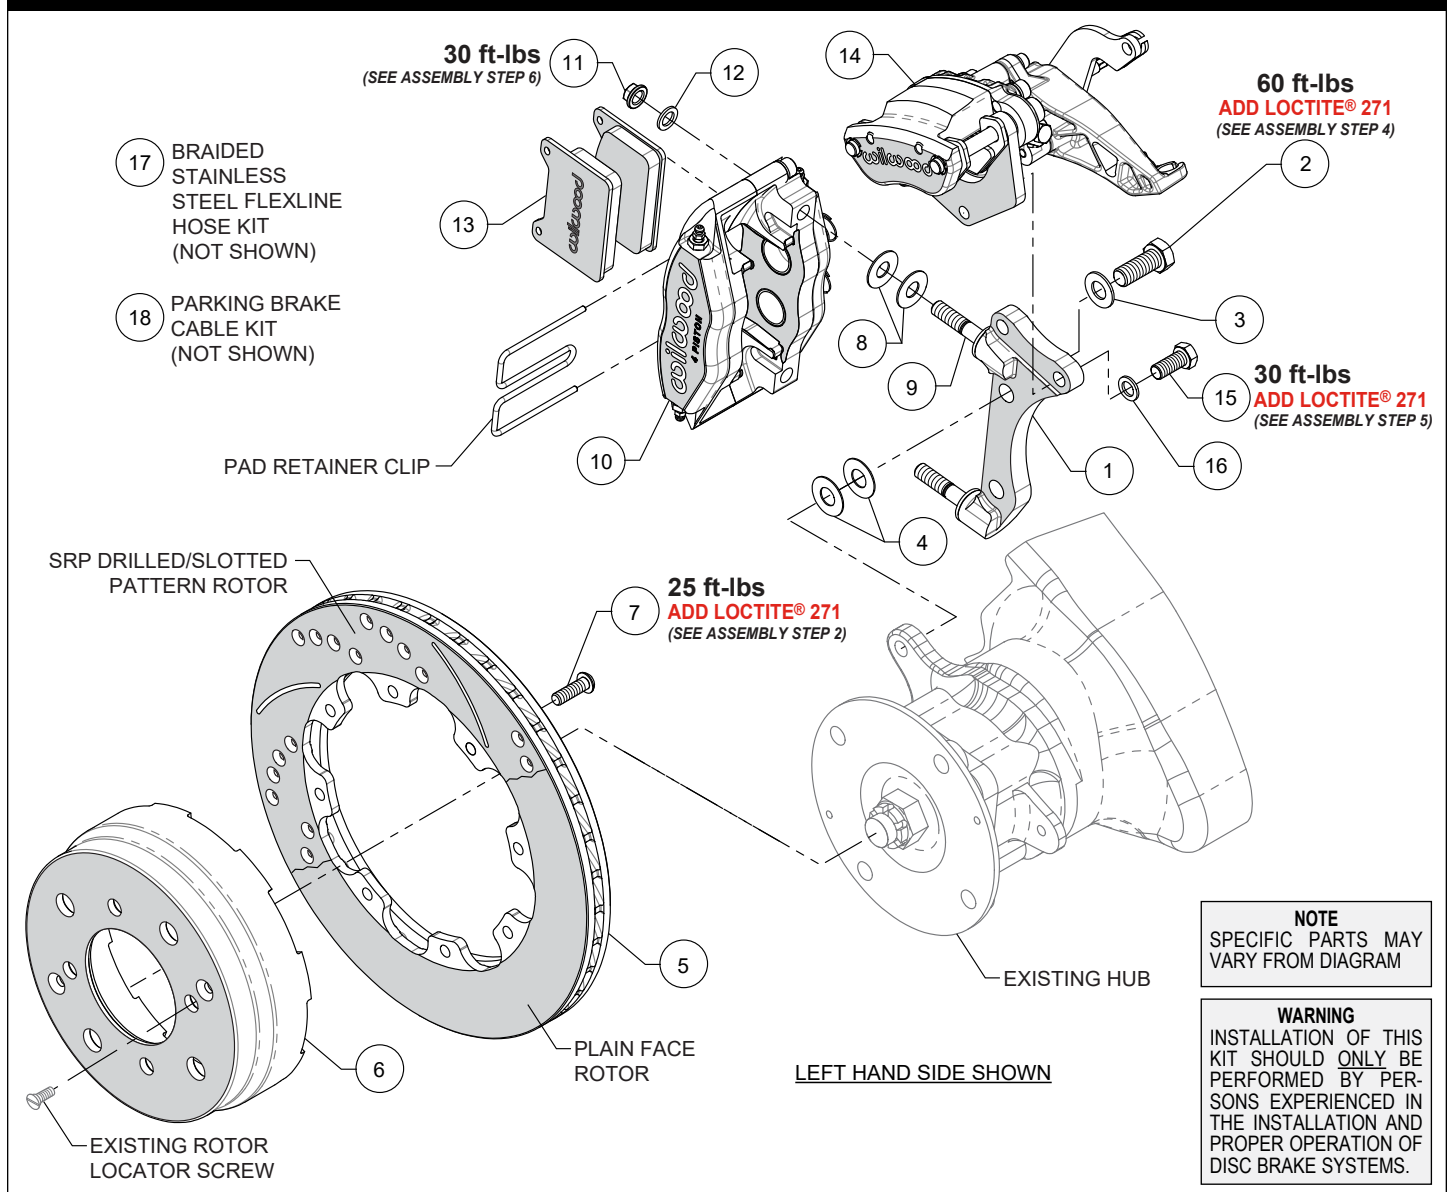

Figure 1. Typical Installation Configuration
NOTE: Numbers in parenthesis refer to the parts list and Figure 1 on the preceding pages.
STEP 1 The caliper mount bracket (1) should initially be installed with clean, dry threads on the mounting bolts. Orient the bracket, as shown in Figure 1 and Photo 1, and install using bolts (2) and washers (3). Initially place two .033" thick shims (4) on each bolt between the bracket (1) and caliper mounting bosses of hub assembly, Figure 1. Temporarily tighten the mounting bolts. **NOTE:** The bracket must fit squarely against the mount bosses on the hub assembly. Inspect for interference from casting irregularities, machining ridges, burrs, etc. Later, after the caliper alignment has been checked, the mount bolts will be secured using red *Loctite*® 271.
STEP 2 Orient the rotor (5) and the hat (6) as shown in Figure 1 and Photo 2. Attach rotor to hat using bolts (7). Apply red *Loctite*® 271 to the bolt threads and torque to value shown in Figure 1 using a criss-cross pattern.
STEP 3 Slide the hat/rotor assembly onto the axle hub, Photo 3. **NOTE:** The hat must fit flush against the axle hub flange or excessive rotor run out may result. Install the hat locator screw (OEM), as shown in Figure 1, to keep the hat/rotor assembly in place while continuing with the installation.
STEP 4 Initially place two .035" thick shims (8) on each stud (9) between the caliper (10) and the bracket (1), as shown in Figure 1 and Photo 4. Mount the caliper (10) onto the bracket (1) using lock nuts (11) and washers (12), Figure 1. Temporarily tighten the lock nuts. View the rotor through the top opening of the caliper. The rotor should be centered in the caliper, Photo 5. If not, adjust by adding or subtracting shims (4) between the bracket and the mounting bosses
of hub assembly. Always use the same amount of shims on each of the two mounting bolts. Once the caliper alignment is correct, remove the bracket mounting bolts (2) one at a time, apply red *Loctite*® 271 to the threads, and torque to value shown in Figure 1.
STEP 5 NOTE: For better accessibility to parking brake caliper mounting bolts (15), remove caliper (10) and proceed with the following. Mount the parking brake caliper (14) to bracket (1) using bolts (15) and washers (16) as shown in Figure 1 and Photo 6. Apply red *Loctite*® 271 to the bolt threads (15), and torque to value shown in Figure 1.
STEP 6 Reinstall caliper (10) ensuring shims (8) from Step 4 are still in place. Remove the caliper pad retainer clip from the caliper. Insert the brake pads (13) into the caliper, with the friction material facing the rotor, Photo 8. Check that the top of the brake pad is flush with the outside diameter of the rotor. If not, adjust by adding or subtracting shims (8) on the stud (9) between the caliper (10) and the caliper mount bracket (1). After the caliper pad height is set, torque the caliper lock nuts (11) to value shown in Figure 1. Secure the brake pads in place with the pad retainer clip, Photo 9.